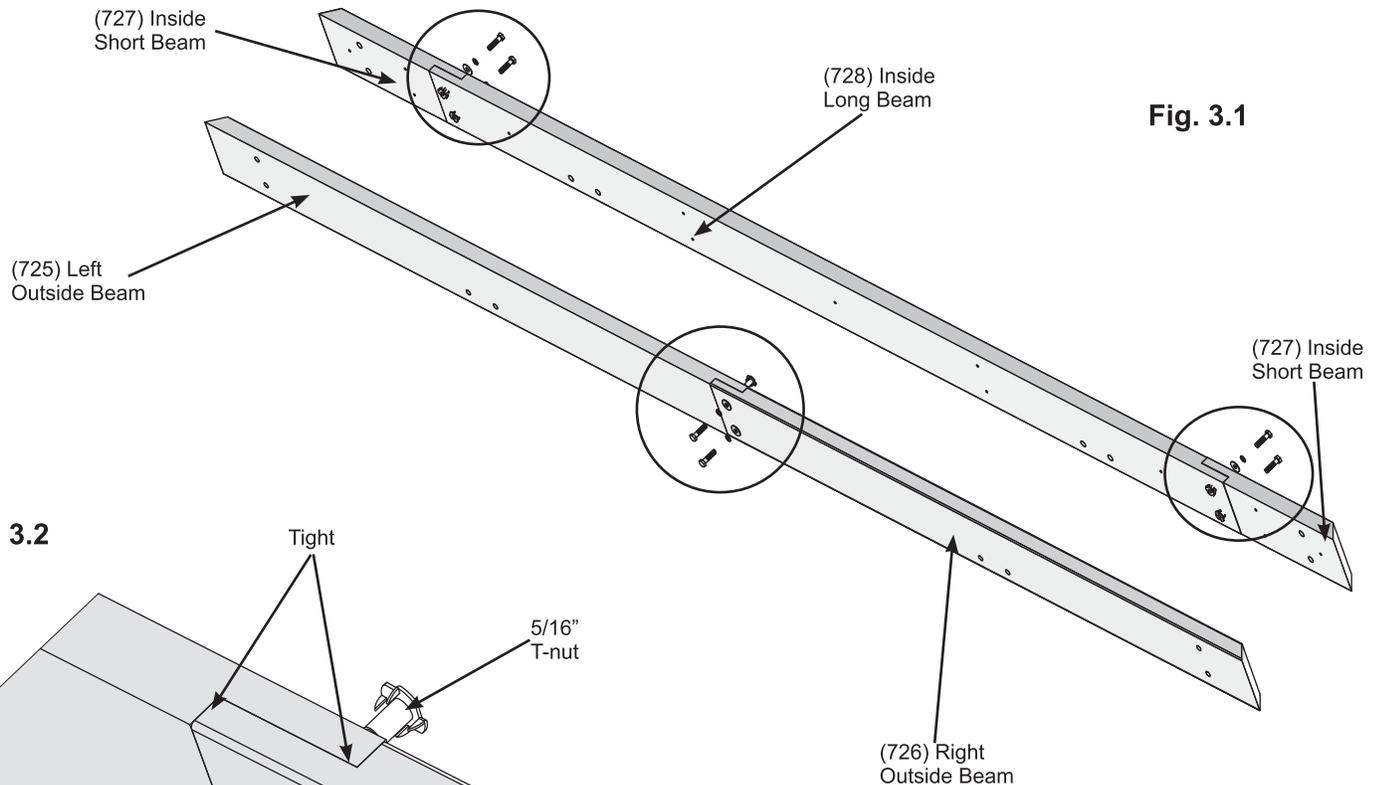

Fig. 3.1
A: Connect one (725) Left Outside Beam and one (726) Right Outside Beam using two 5/16 x 1-1/4" Hex Bolts (with 5/16" lock washer, 1/4 - 5/16" large washer and 5/16" t-nut) as shown in fig. 3.1 and 3.2.
B: Connect one (727) Inside Short Beam to each end of one (728) Inside Long Beam using two 5/16 x 1-1/4" Hex Bolts (with 5/16" lock washer, 1/4 - 5/16" large washer and 5/16" t-nut) per end as shown in fig. 3.1 and 3.2.